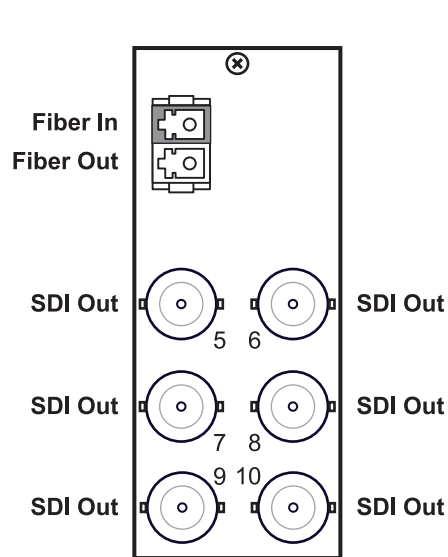

Figure 2.4 Cable Connections for the 8320AR-044 Rear Module
- **8320AR-044** (R2-6605) Full Rear Module — Each FSR-6605 occupies two slots and provides an optical input, two optical outputs, and four SDI outputs. Refer to **Figure 2.4**.